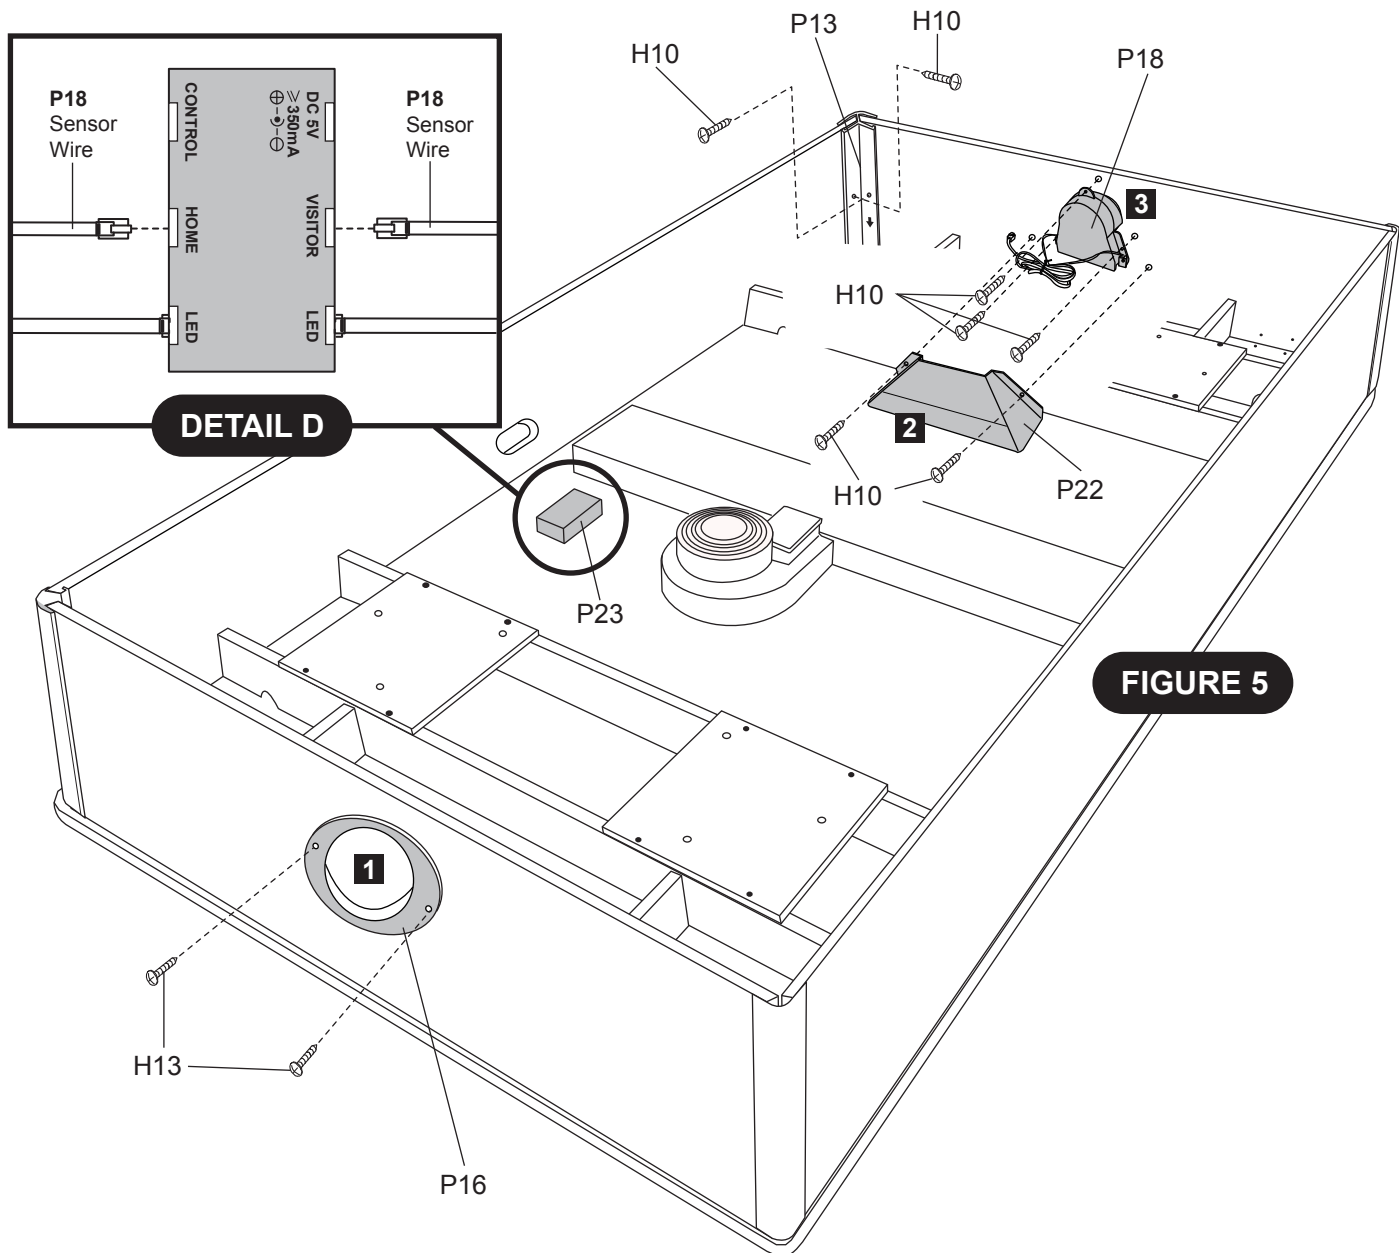

FIGURE 5
Secure **P13** Corner Posts using **H10** Screws as shown in **FIGURE 5**.
- 1** Install **P16** Puck Catcher Hole Trims using pre-drilled holes with **H13** Screws as shown in **FIGURE 5**.
- 2** Install **P22** Upper Puck Catchers using pre-drilled holes with **H10** Screws as shown in **FIGURE 5**.
- 3** Install **P18** Lower Puck Catchers with Sensor Wires using pre-drilled holes with **H10** Screws as shown in **FIGURE 5**.